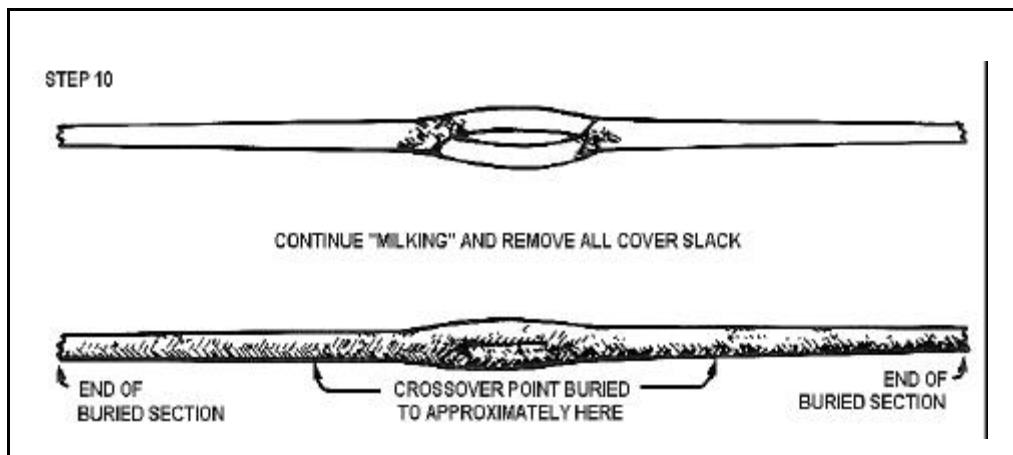

Figure 12-75. Finishing the Splice
- **STEP 10 -- Finishing the splice.** The splice is done when all cover slack has been removed and there is an opening in the splice about equal in length to the diameter of line (see Figure 12-75). If one side of the splice at the opening is noticeably longer than the other side, something is wrong. Check steps 1 through 9 and remake if necessary. Now untie the slip knots.